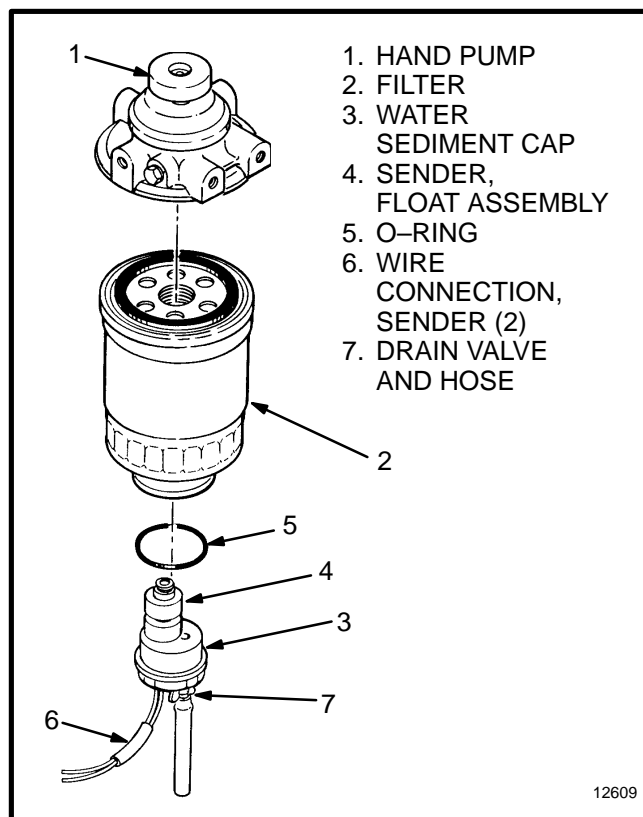

FIGURE 70. FUEL FILTER WITH A WATER SEPARATOR
1. See FIGURE 70. Disconnect the two sender wires from the bottom of the fuel filter. Remove the fuel filter from its mount. Remove the parts that include the sender unit from the bottom of the fuel filter.
The fuel injection pump, Model VE, has a rotary vane fuel pump inside of the fuel injection pump. The fuel injection pump must be filled with fuel before the engine will start. A hand pump is installed in the top of the fuel filter. See FIGURE 70. This hand pump can be used to fill the fuel system before trying to start the engine. The following procedure is for diesel engines with a fuel injection pump, Model VE: